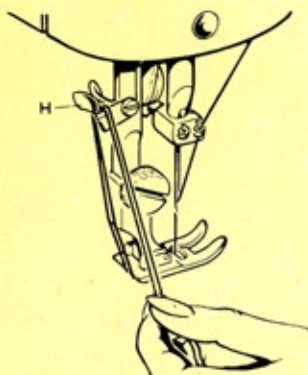

Fig. 20
- Draw fabric away from presser foot and draw threads, keeping them taut, through thread-cutter «H» (Fig. 20).